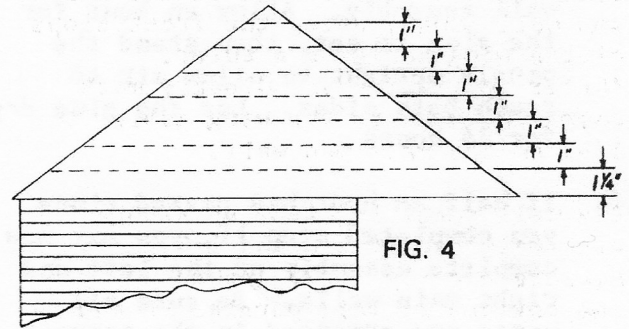

FIG. 4
10. Measure $1\frac{1}{2}$ inches up from the bottom of each of the gable ends, and draw a line parallel with the bottom edge. Now draw lines at one-inch intervals the rest of the way up the gables, as shown in figure 4.